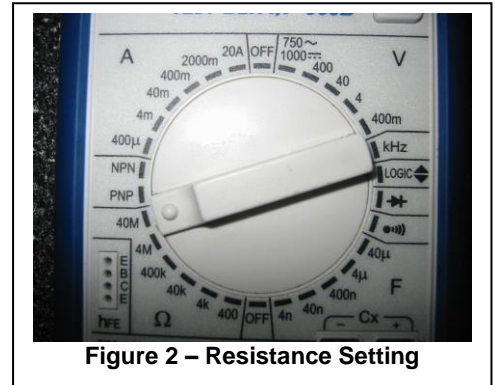

Figure 2 – Resistance Setting
2. Set the DMM center dial to the Ω **40M** range as per **Figure 2** and attached the DMM test leads to the other ends of the wires.